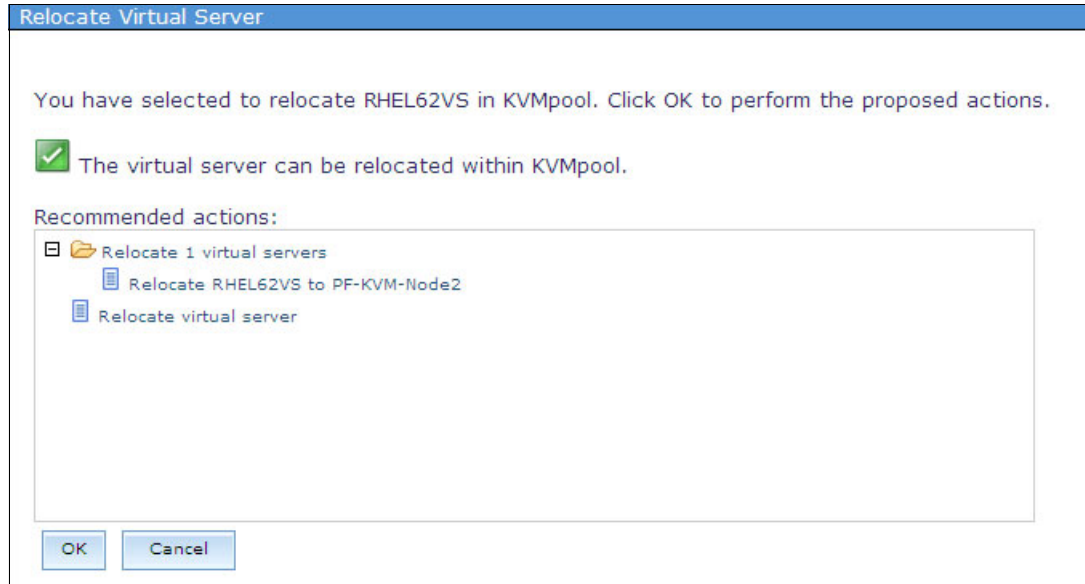

Figure 9-162 Relocate virtual server information window
4. A confirmation window opens to confirm that your virtual server can be relocated as shown in Figure 9-162. Click **OK** to start the server relocation.